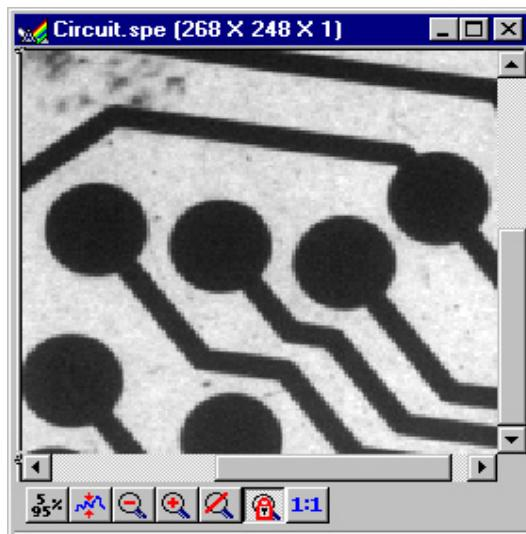

Figure 99. Circuit.spe Expanded to show Defined Region
2. Click on the  (Zoom In) button. The view will change so that only the selected region is displayed as shown in Figure 99.